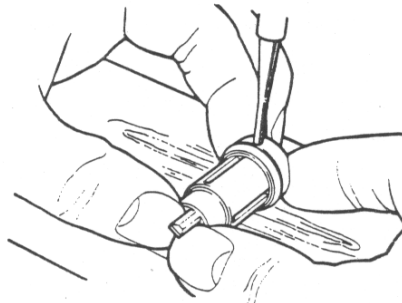

FIG. 9
- .Hold the lock barrel on a block of wood. Using a flat end punch and a hammer, drive the edge of the cover into the three slots in the lock barrel rim, (Fig. 9).